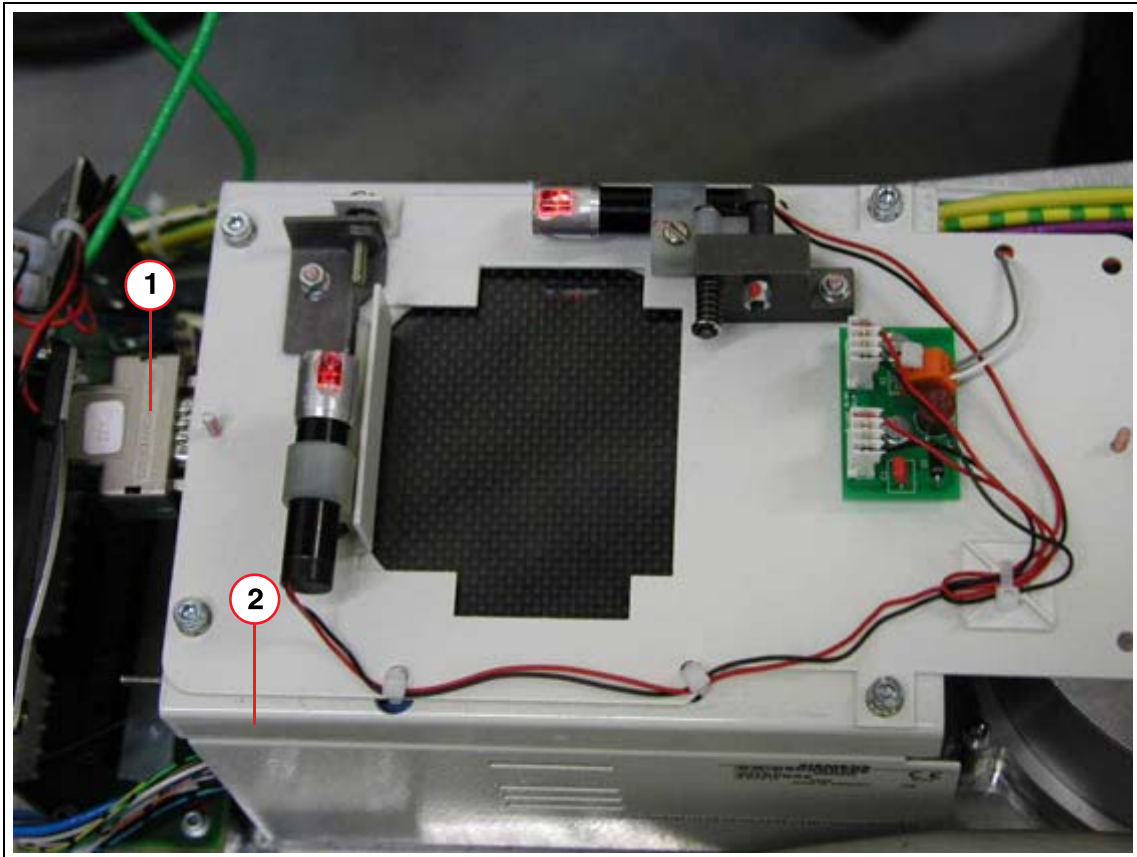

Fig. 1: Measuring chamber connector
3. Remove the measuring chamber connector (1/Fig. 1 / p. 6) from the cable tie.
4. Place the dose measuring chamber on the POWERPHOS according to (2/Fig. 1 / p. 6).
6. Connect the measuring chamber connector (1/Fig. 1 / p. 6) to the measuring chamber.